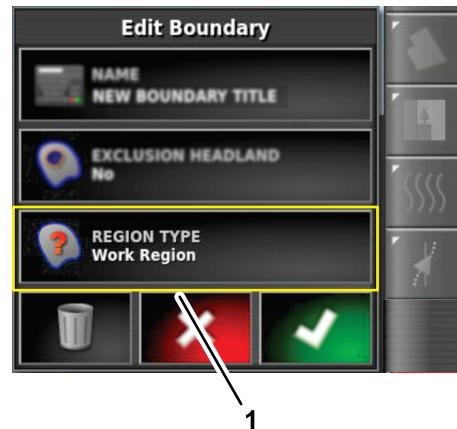

Figure 59
1. In the edit boundary dialog box, press the REGION TYPE icon (Figure 59).